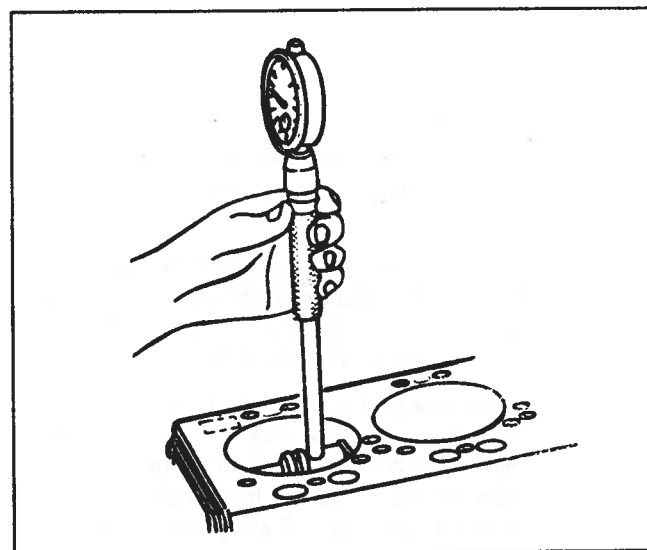

Figure 8-190. Using Telescoping Gauge To Check For Cylinder Taper And Out-Of-Round
- a. Measure cylinder bore diameter with a telescope gauge 2-1/2 in. (64 mm) from top of cylinder bore (Figure 8-190).